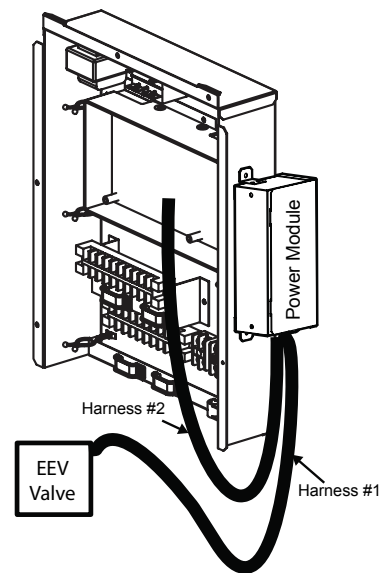

Figure 34: Routing Module Wiring
3. Route the power module wiring harness #2 through an opening in the bottom of the control panel (Figure 34).